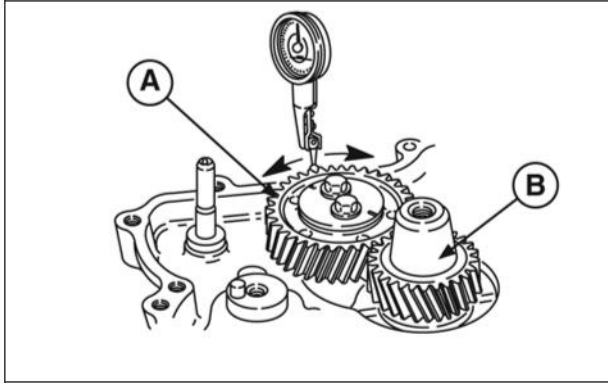

Figure 6
2. Check gear back lash between idler gear (A, Figure 6) and crankshaft gear (B) using a dial indicator.